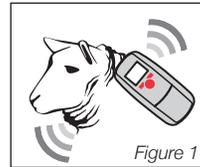

Figure 1
1. Before the microchip is implanted, the animal should be properly identified and checked for an existing microchip with a reader, as seen in Figure 1.